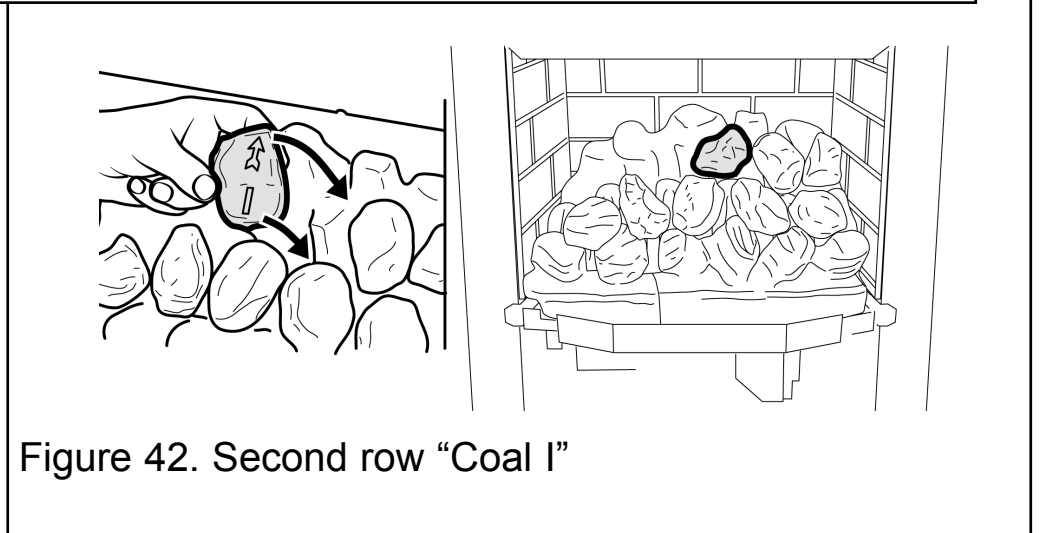

Figure 42. Second row "Coal I"
**18.** Hold coal 'I' upright with the arrow pointing to the top. Locate coal 'I' as shown in figure 42.